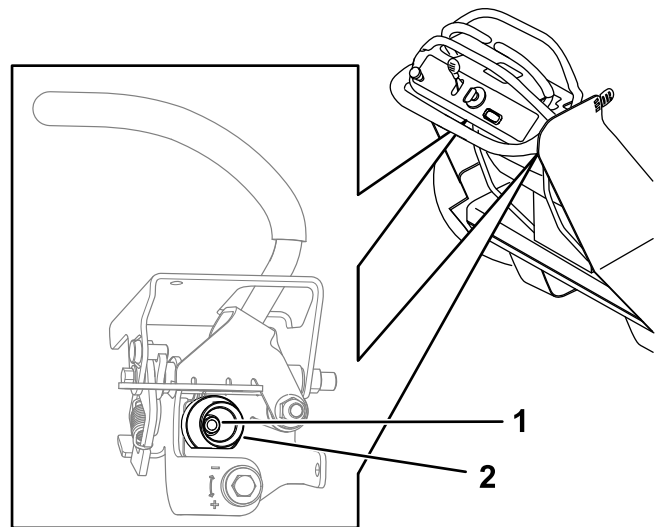

Figure 60
5. Loosen the nut holding the cam for the motion-control lever you are adjusting (Figure 60).
6. Adjust the cam until it aligns with the other motion-control lever and tighten the nut for the cam (Figure 60).